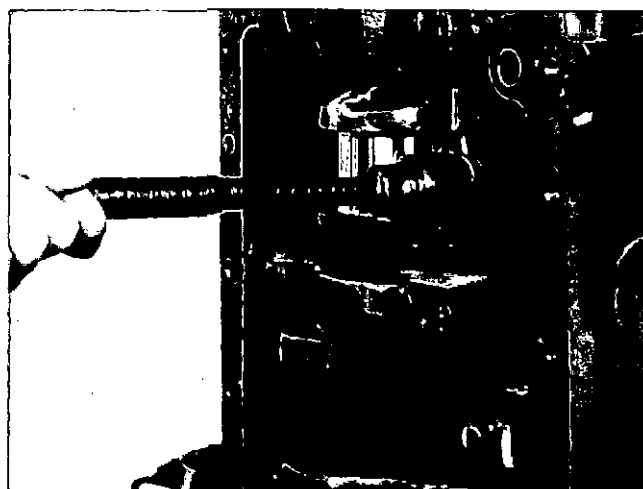

Fig. 0-55 (N100154). Remove The Connecting Rod And Piston Assembly.
3. Install Part No. 3375601, Nylon Guide Screws in the connecting rod to prevent damage to the cylinder liner. Push the connecting rod and piston assembly from the cylinder liner, Fig. 0-55. Make sure each connecting rod and cap has a label or mark for identification.